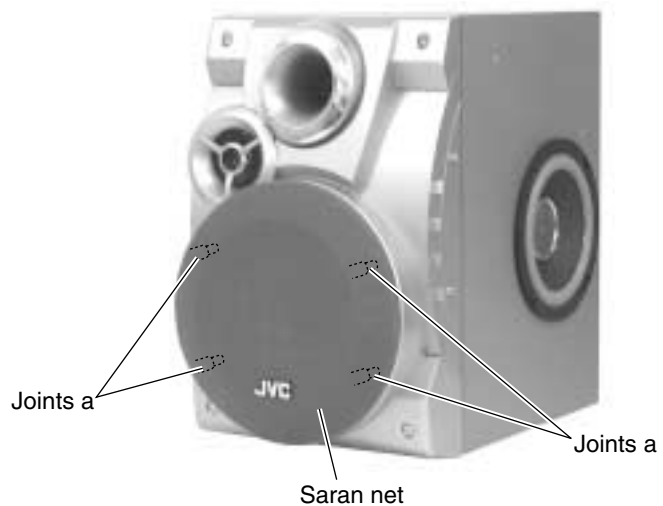

Fig.3
■ **Removing the front cover (See Fig.3 to 5)**